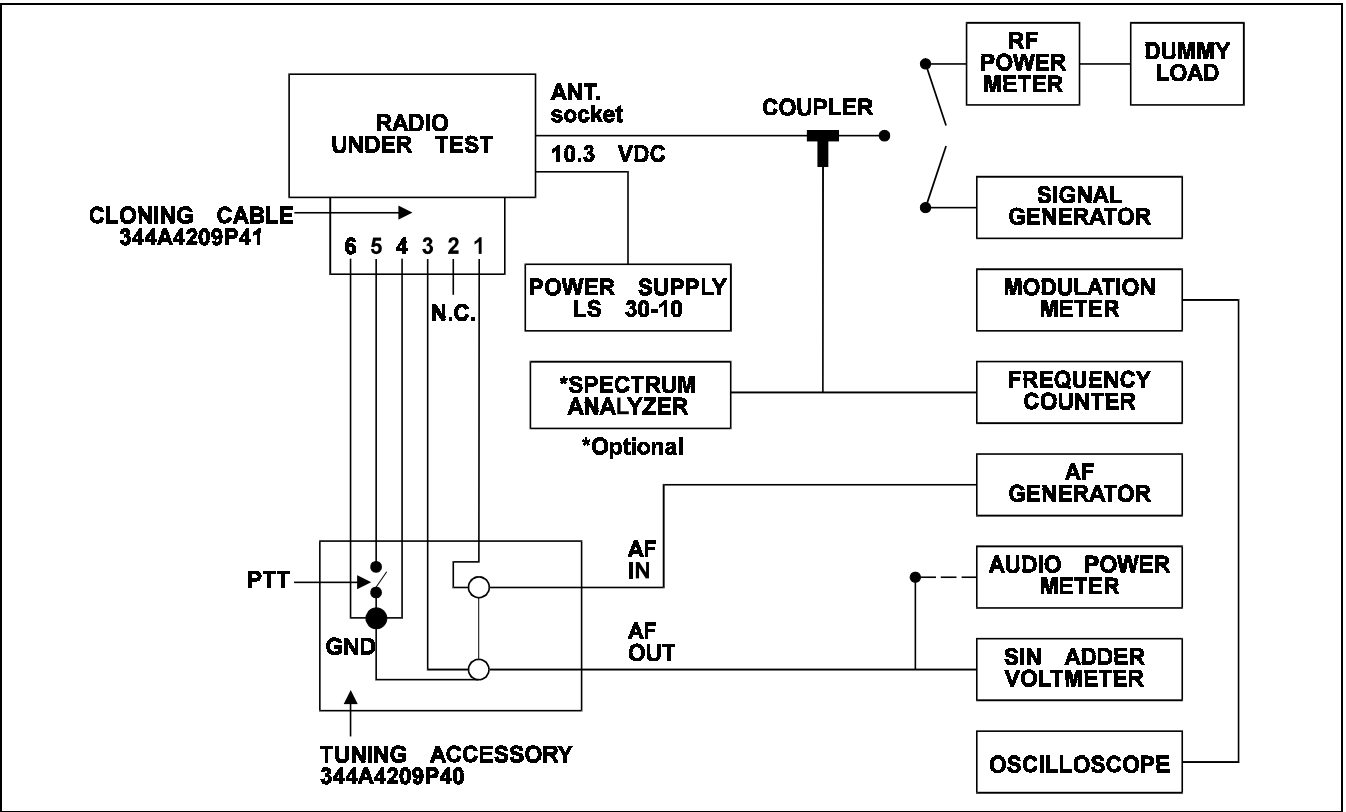
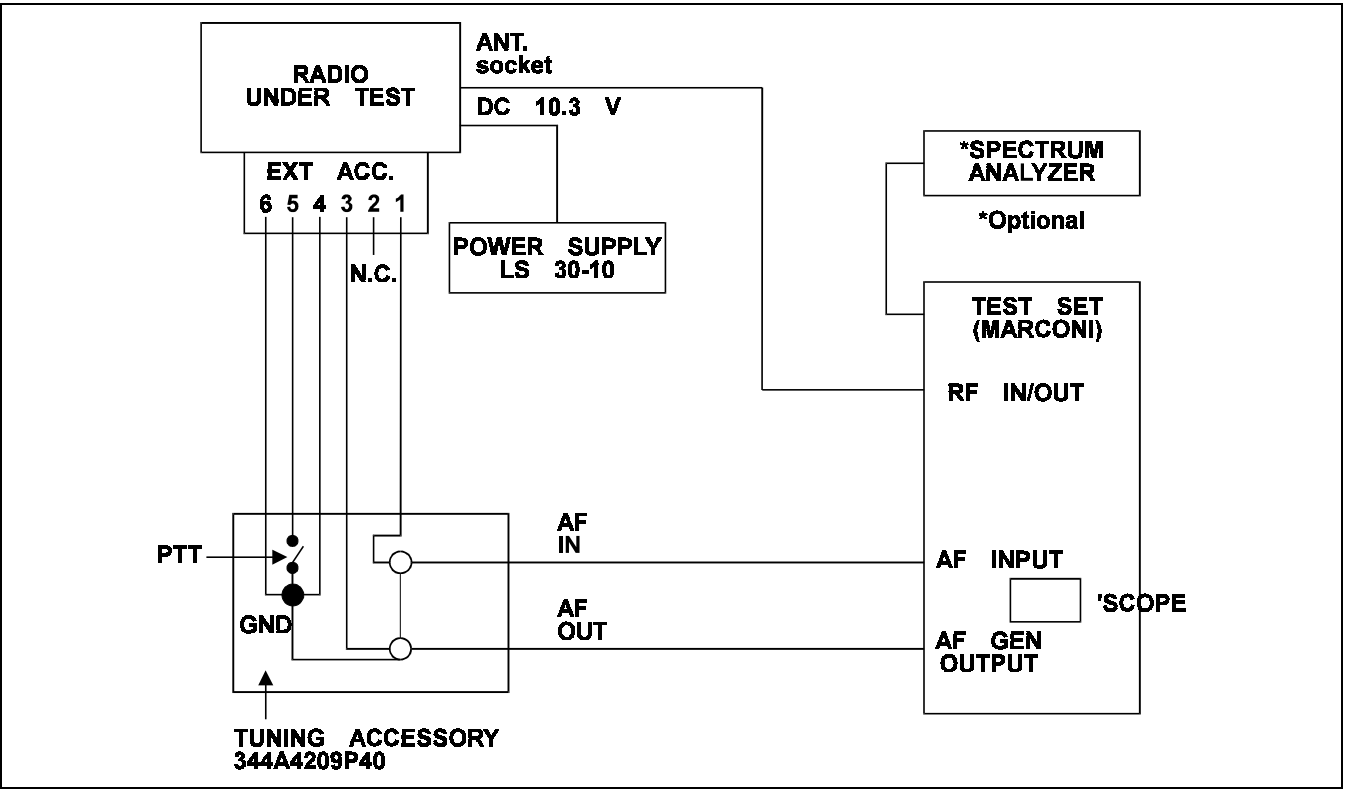

Figure 4 - Discrete List Text Equipment Setup
Figure 5 - Test Set Setup
Refer to Figure 4, Discrete List or Figure 5, Test Set.
2. Connect the oscilloscope to the deviation meter, refer to Figure 4.
1. Connect a spectrum analyzer and RF power meter to the antenna (ANT) socket, refer to Figure 4.
1. Connect the RF signal generator to the coupler as shown in Figure 4.